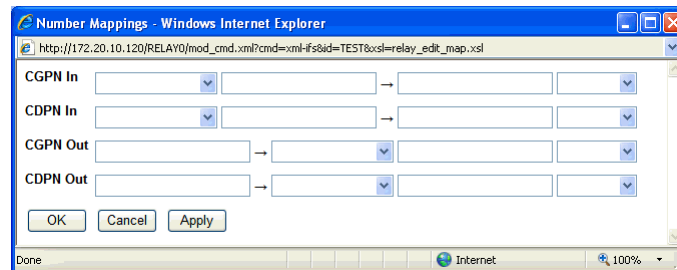

Figure 39. Call number mapping for SIP interfaces
- 4 On each mapping line, a *Call Number Type* can be selected from the *Call Number Type* drop-down list (found on the righthand side of the lines in Figure 39).
- 5 On each mapping line, a *Call Number Format* can be selected from the *Call Number Format* drop-down list (found on the lefthand side of the lines in Figure 39).